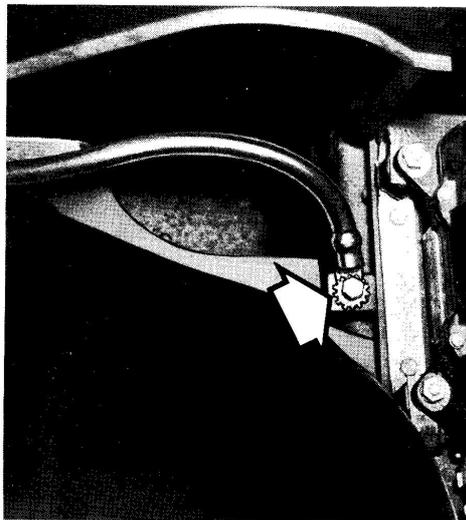

Fig. 5. Battery ground lead to be disconnected.
- b. Disconnect the battery ground lead located just to the right of the voltage regulator, Fig. 5.